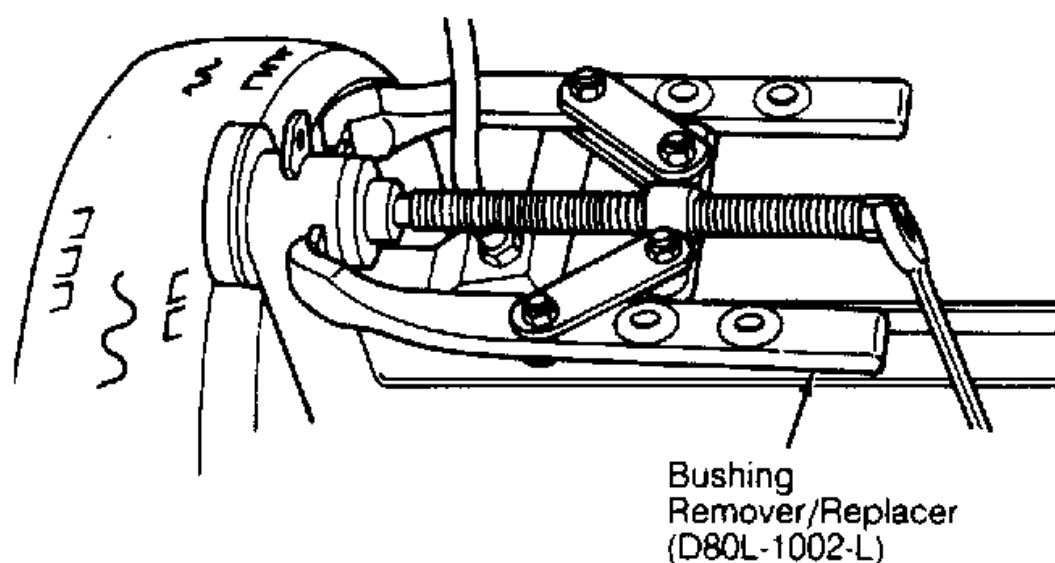

Fig. 6: Removing Torsion Beam Bushing
3. Using piece of wood, block beam in disengaged position. Using Bushing Remover/Replacer (D80L-1002-L), remove bushings from inboard side of torsion beam arm. See Fig. 6.